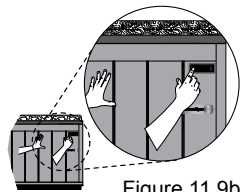

Figure 11.9b
2. Select one of the two door latches and press the latch release button to unlocked, Figure 11.9b. This will release the panel from its bracket and the hot tub frame. Repeat the same steps for the other latch.